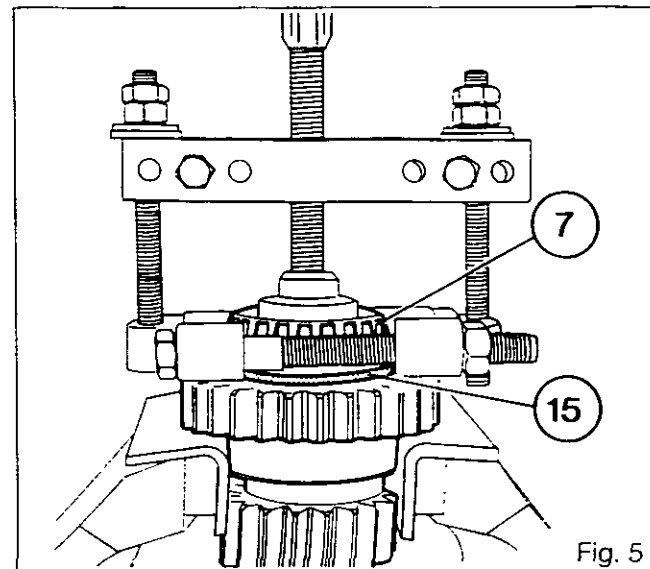

Fig. 5
28. Extract the bearing cone (7) and the deflector (15) (Fig. 5), then remove the bearing cone (4).
- Note: To extract the cup (3) it is necessary to remove the 540/1000 rpm pinions. Partly drain the rear axle housing. Carry out operations 29, 8 to 11 and 31, chapter 6E01.**